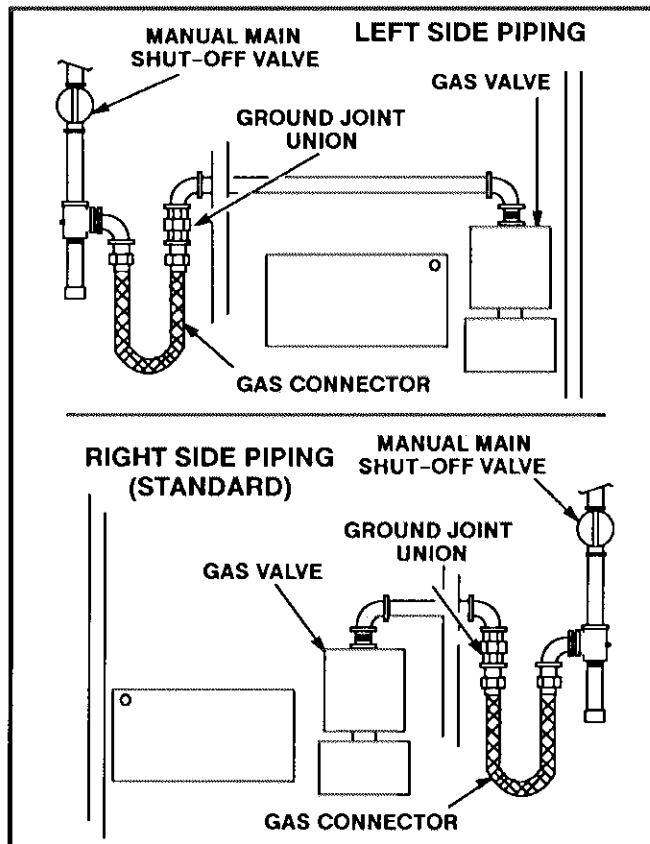

FIGURE 12
- 1- When connecting the gas supply, the length of run from the meter must be considered in determining the pipe size to avoid excessive pressure drop. For correct sizing of gas delivering piping, consult the utility having jurisdiction. A drip leg should be installed in the pipe run to the unit. In some localities, codes may require a manual main shut-off valve and union (furnished by installer) installed external to unit. Union must be of ground joint type. A 1/8" N.P.T. plugged tapping, accessible for test gauge connection, must be installed immediately upstream of the gas supply connection to the furnace (See figure 12).
The above connectors may be used if acceptable by the authority having jurisdiction. A gas connector is provided and, if used, should be installed between the manual main shut-off valve and ground joint union. See figure 12 for downflow applications and horizontal applications.
CAUTION—Flexible gas connector must not be used to exit the unit. Flex connector must be installed in U-shaped fashion in order to achieve its purpose (See figure 12). Do not secure to unit ducting or structure.
- 3- Center gas line through piping hole. Gas line should not touch side of unit. See figure 12 for downflow and horizontal applications.